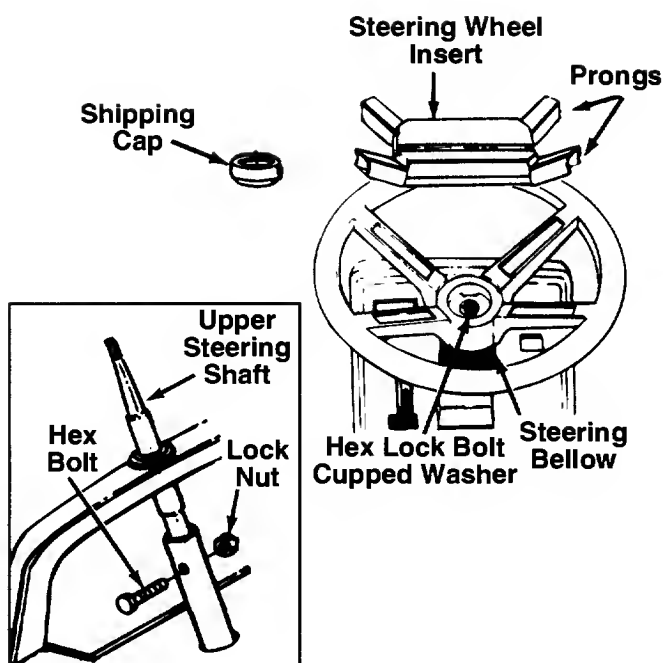

FIGURE 1.
1. **Models with two-piece steering shaft:** Raise the hood on the lawn tractor and remove the hex bolt and lock nut from the lower steering shaft. Insert end of upper shaft through the hole in dash panel, and into the lower steering shaft. Align the holes in the upper and lower steering shafts, and secure with hex bolt and lock nut just removed. See figure 1, inset.